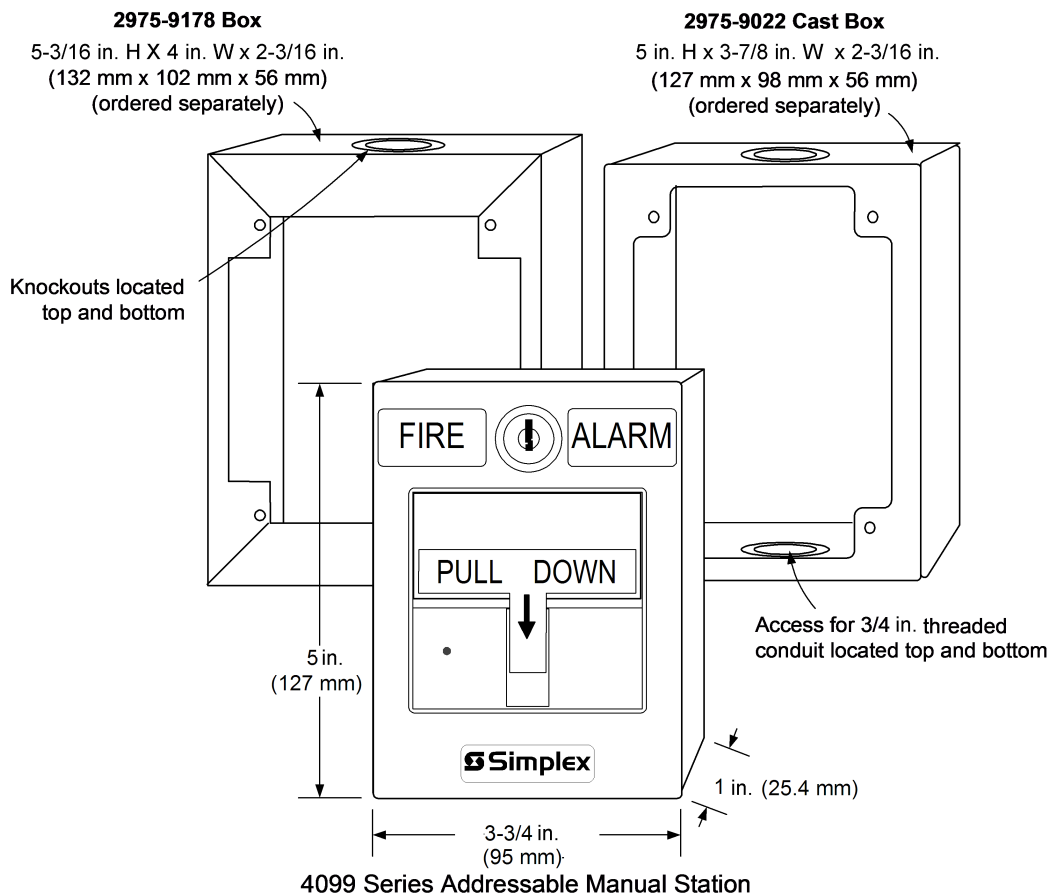

Figure 2: 4099 Series addressable manual station
**Preferred mounting.** For surface mounting of these addressable manual stations, the preferred electrical boxes are shown in Figure 2.
Figure 2 shows the 2975-9178 box and the 2975-9022 cast box.